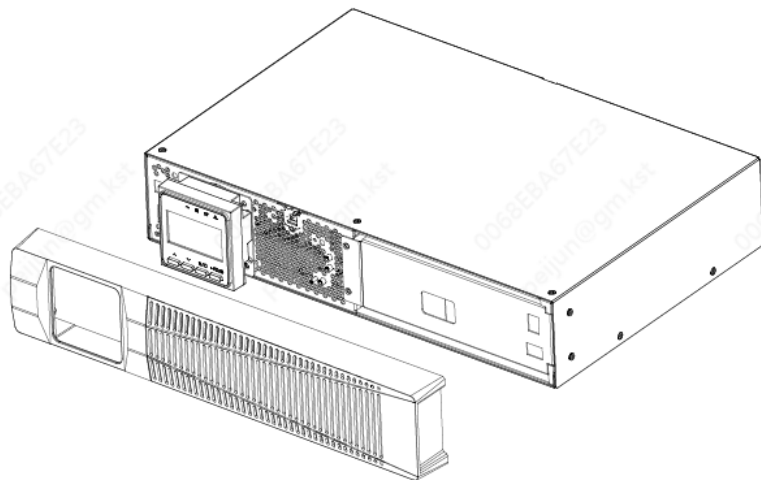

Figure6 Connecting the UPS Internal Batteries
- b) Connect the internal battery connector(see Figure6)